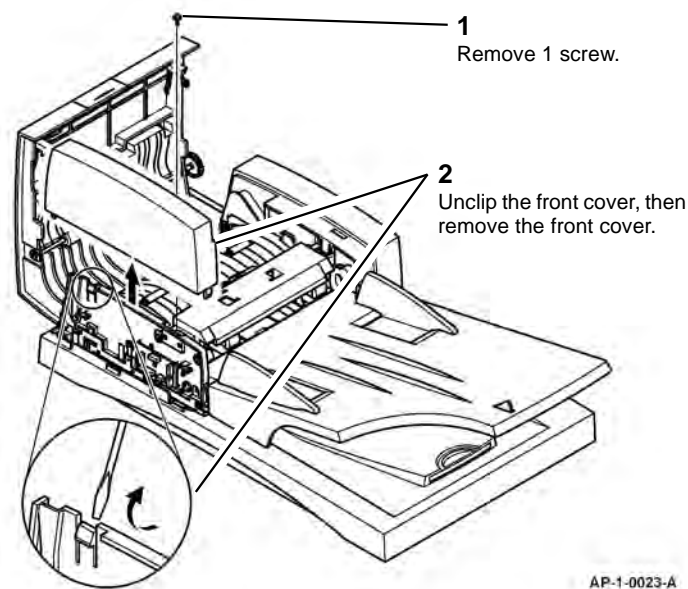

Figure 4 Front cover removal
5. Remove the front cover, Figure 4.